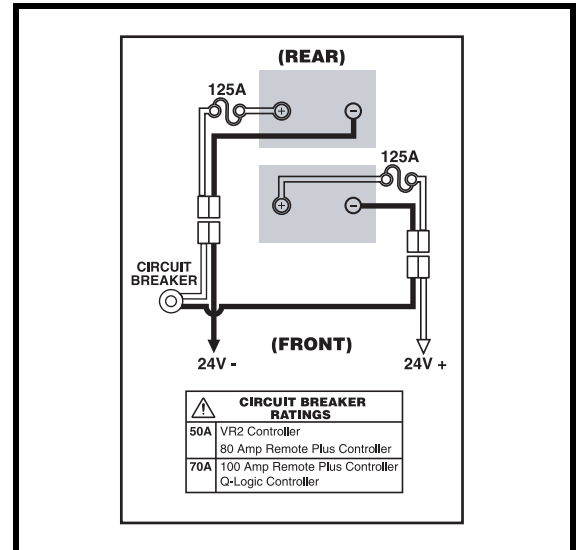

Figure 25. Battery Wiring Diagram
A battery wiring diagram is printed on a decal located on the battery door. See figure 25. Refer to the specifications table in III. “Your Power Chair” for correct battery specifications.
5. Locate the battery quick disconnects on the frame and disconnect both of them. See figure 25.
10. Connect the battery quick disconnects according to the battery wiring diagram label located on the frame. See figure 25.